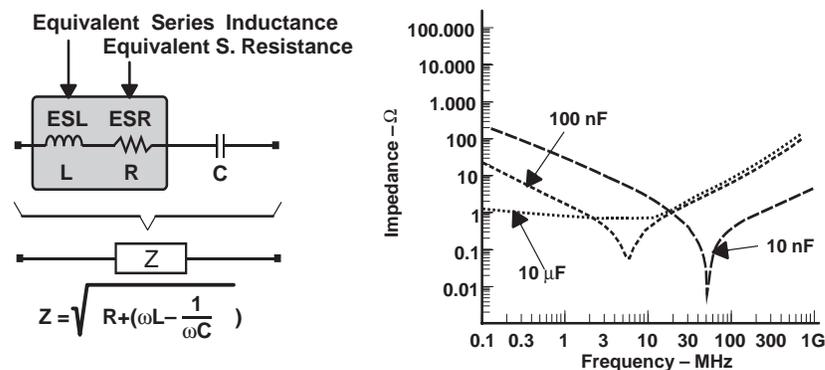

Figure 2. Impedance Behavior of a Real Capacitor
- The ideal supply voltage for an operational amplifier has a very low impedance. To achieve this on the PCB, the whole supply trace must have low impedance by a wide trace. Additionally the supply voltage has to be stabilized by a bulk capacitor against rapid large changes of the supply current. The maximum supply current is determined by the output power of the amplifier. In most cases a 6.8- μF to 10- μF tantalum capacitor provides a good value for the output power of the THS series. When selecting capacitors it is important to ensure that they have a low equivalent series resistance (ESR) and a low equivalent series inductance (ESL). It may be possible to share the bulk capacitor among several devices, depending on the application. Figure 2 shows that at high frequencies the impedance of a capacitor increases. Depending on the quality of the bulk capacitor and the trace length, additional bypass capacitors are necessary to improve the impedance of the power supplies at high frequencies. Placing a ceramic bypass capacitor, in the range of 10 nF to 100 nF directly at the amplifier's supply pins bypasses RF currents and improves EMC characteristics of the circuit. The designer should strive for distances of less than 0.1 inches between the device supply pins and the ceramic capacitor. This additional ceramic capacitor can be improved by using a multilayer PCB, since large power supply planes on such a PCB act as capacitors themselves.